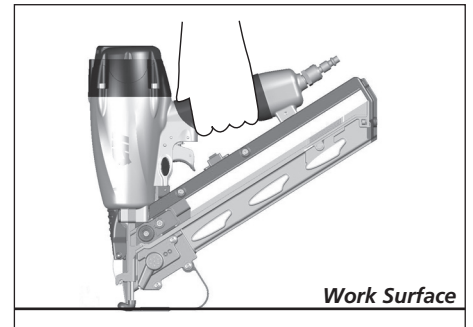

Figure 16
5. Depress the WCE against the work surface without pulling the trigger (See Figure 16). The nailer **MUST NOT OPERATE**. Do not use the tool if it operates without pulling the trigger. Personal injury may result.